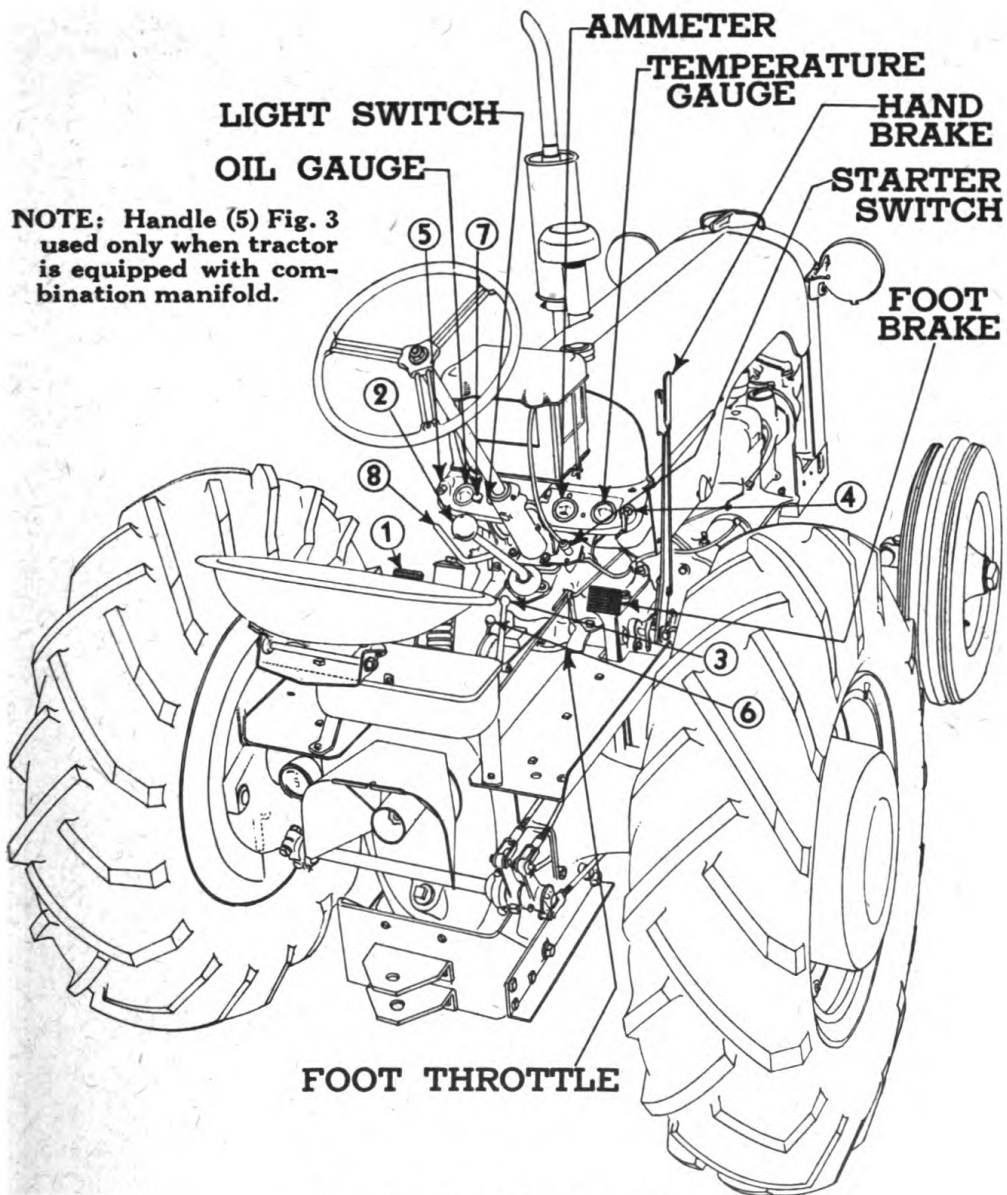

Fig. 3. Operating Controls
11. Work the clutch pedal 1, Fig. 3 to see that clutch does not stick, that shoe does not bind on brake sleeve and that both engage properly when operated.
- B. Place gear shift lever 2, Fig. 3 in the neutral position.
- C. Set the throttle 3, Fig. 3 at about mid position. Pulling back on lever 3 opens the throttle and causes the engine to operate at higher speed.
- E. Pull the choke 7, Fig. 3, out $\frac{1}{2}$ to $\frac{3}{4}$ of its full travel when starting the engine when cold. As the engine gradually warms up, push the choke in. No definite set point can be recommended as it will vary slightly on one engine as against another. It functions the same as a hand control choke which has been used on automobiles and trucks for years.
Depress the clutch pedal 1, Fig. 3, and shift into the road speed desired, and gradually release the clutch pedal.
It is recommended that the engine be throttled down before disengagement of the clutch. If the tractor is to remain standing, place the gear shift lever 2, Fig. 3 in neutral and apply the hand brake to prevent the possibility of the tractor starting should the tractor be standing on a grade. It is advisable to shut off the engine to save fuel rather than idling for long periods of time.